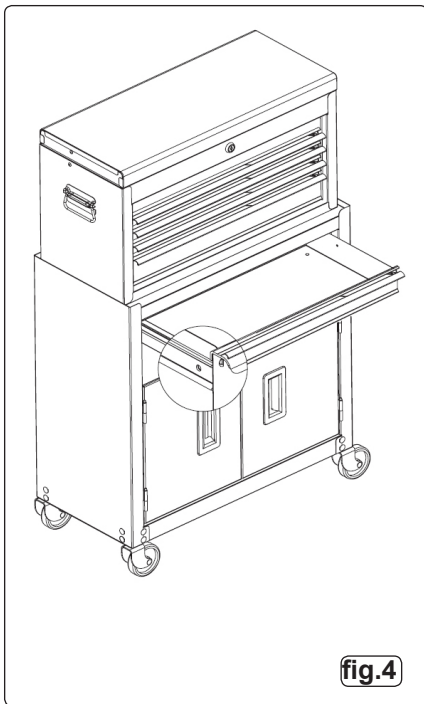

fig.4
4.7. Place the rollcab upright and place the topchest on top as shown in fig.4.